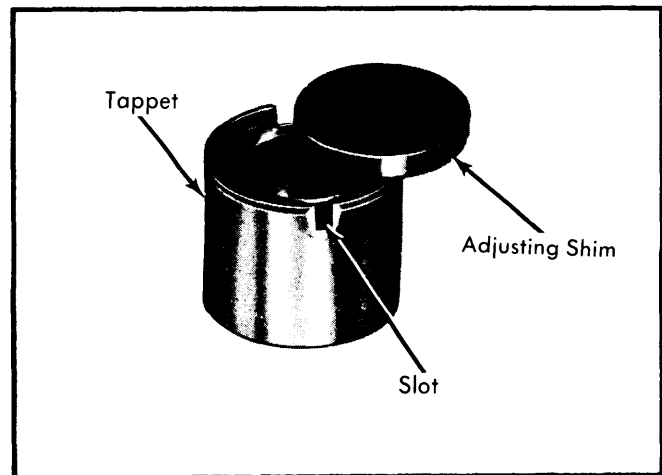

Fig. 5 Removing Adjusting Shims From Tappets
5) Turn the crankshaft (turning camshafts) until camshaft lobe does not depress the tappet any longer, while the tool keeps the tappet locked in the open valve position. Apply air pressure to tappet slot, and remove the adjusting shim (See Fig. 5) using pliers (88013038).